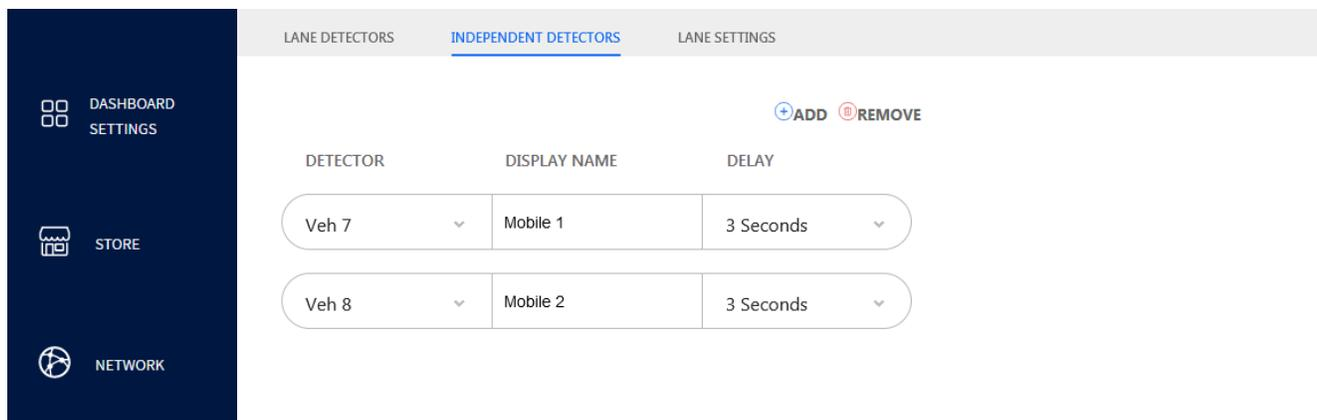

Fig. 7.2
**Example:** Fig. 7.2 shows that Veh 7 is assigned the name Mobile 1 with a detection delay of 3 seconds. The Veh # selected from the Detector drop-down list must correlate with the actual Veh # the detector is connected to on the TSP. The detection delay time enables you to add a delay to eliminate any false or unwanted detections. You can also add or remove detectors here.